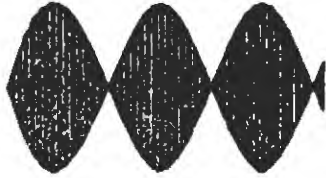

Figure 3-4
- Adjust CARRIER LEVEL control and VR5(T-3571) alternately for correct DSB(Double Side Band) waveform as shown in Figure 3-4.